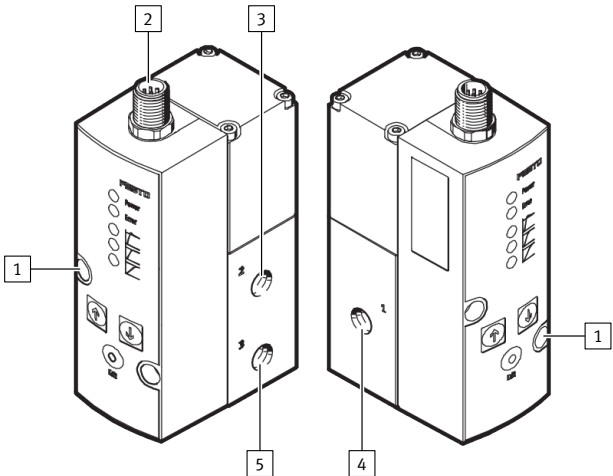

Fig. 2: Connections and mounting holes (in-line valve)
- Connect the compressed air port (1) and the working air port (2) with tubing → Fig. 2.
- Fit a silencer at the exhaust air port (3) or install an exhaust air duct → Fig. 2.